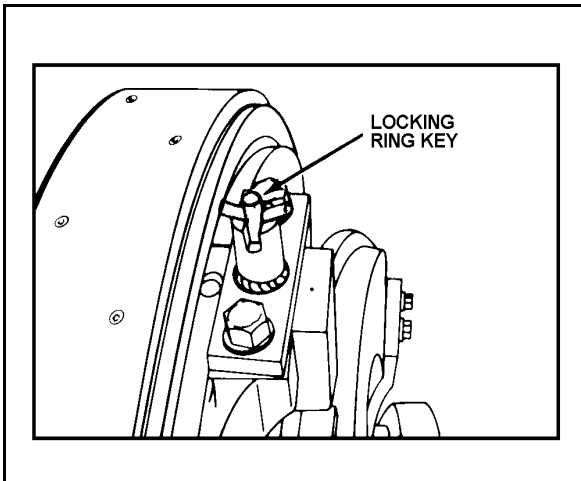

Figure 21-13. Lifting Locking Ring
- Lift the locking ring key on the locking ring (Figure 21-13, page 21-16).